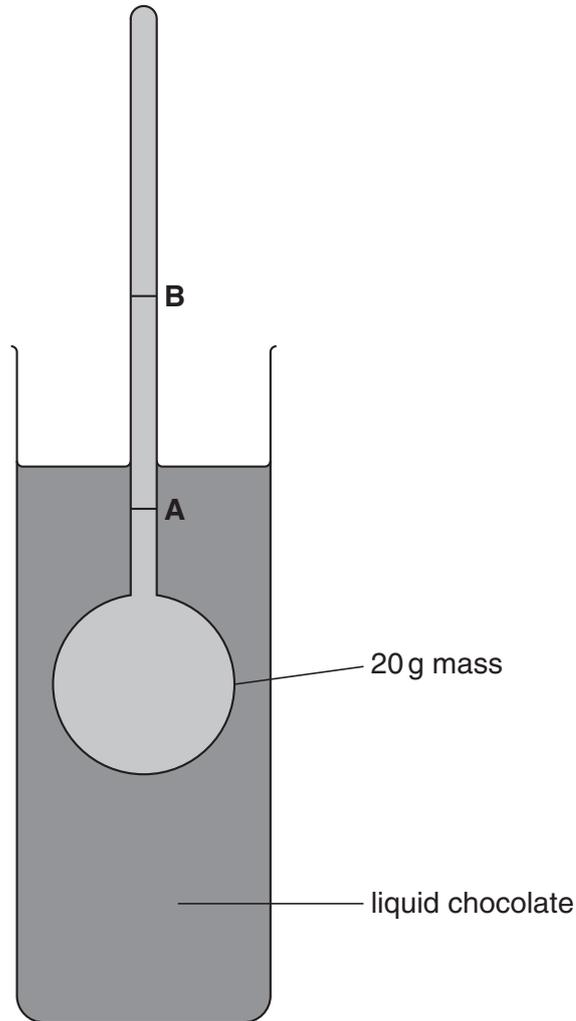

Fig. 1.4
- (h) Some students decided to compare the viscosities of two types of chocolate. Liquid chocolate at 40°C was placed in a tall beaker. A ball of mass 20g was attached to a scale and added to the liquid chocolate as shown in Fig. 1.4.